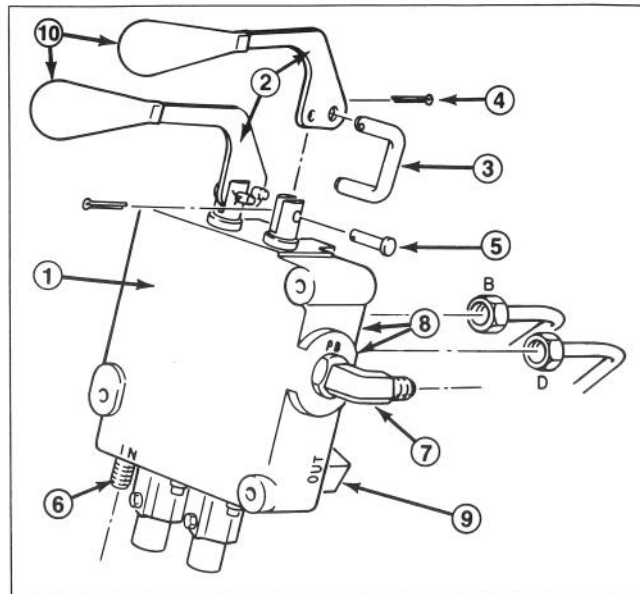
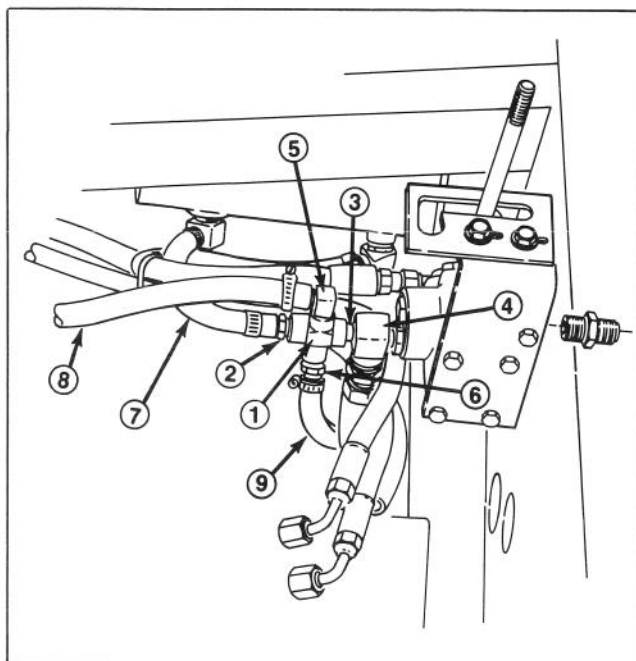

Figure 8
Figure 10
Note: Install a knob on each wing lift lever, then install the two levers on the wing lift valve as shown in Fig. 8. Be sure that the "C hooks", cotter pin and clevis pin are installed in the proper direction (Fig. 8).
7. Connect the other end of the new long 3/8" ID flexible line from Step 6 to the bottom right fitting (port labeled "in") on the new two lever wing lift valve (Fig. 8). Do not tighten the fitting at this time.
"PB") on the two lever wing lift valve (Fig. 8). Leave fittings loose on the valve.
11. Connect two hydraulic lines from step 10 to the two fittings (ports labeled "B" and "D") on the bottom rear of the two lever wing lift valve (Fig. 8). Do not tighten the fittings at this time.
20. Thread the original main lift valve barbed fitting into the end of the cross fitting (Fig. 10) and thread the male to male adapter plus cross fitting into the end of the main deck lift valve 90° fitting (Fig. 10).
Install a new 90° barbed fitting into the top port on the cross and a new straight barbed fitting (supplied with the Retrofit Kit) into the bottom port on the cross (Fig. 10). Tighten all these fittings.
21. Connect the return line from the main lift cylinder to the center barbed fitting of the assembled cross (Fig. 10). Connect the return line from the wing cylinders to the top 90° barbed fitting on the cross.
22. Connect the shorter (10.5 inch) 1/4 inch ID hydraulic hose to bottom of two lever wing lift valve port labeled "out" (Fig. 8). Route and connect the other end to the straight barbed fitting on the bottom of the cross (Fig. 10).
Note: Install the two levers on the wing lift valve (supplied with the Triflex deck) as shown in Fig. 8. Be sure that the "C hooks", cotter pin and clevis pin are installed in the proper direction (Fig. 8).
(labeled "PB") on the two lever wing lift valve (Fig. 8). Do not tighten the fitting at this time.
10. Connect two hydraulic lines from step 9 to the two fittings (ports labeled "B" and "D") on the bottom rear of the two lever wing lift valve (Fig. 8). Do not tighten the fittings at this time.